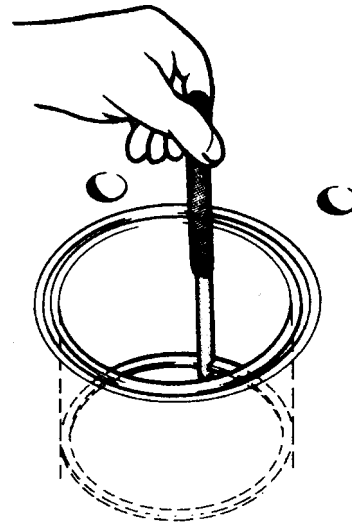

Fig. 41. Checking of piston ring gap
Check the piston ring gap (Fig. 41). Push down the ring **below the lower turning position** by means of a piston. Replace the piston ring if the gap exceeds 1.0 mm (.039 in).
7. Check the piston ring gap in the cylinder bore (Fig. 41 on page 35) and that the rings do not jam in the piston ring grooves.